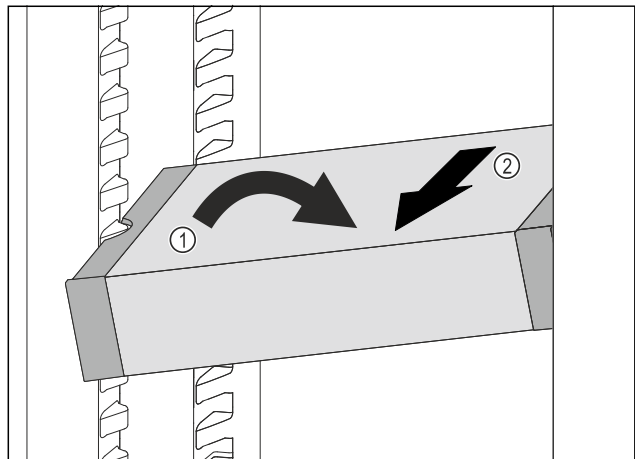

Fig. 129
- ▶ Set VarioSafe in refrigerator compartment at an angle. Fig. 129 (1)
- ▶ Take VarioSafe out to the front. Fig. 129 (2)